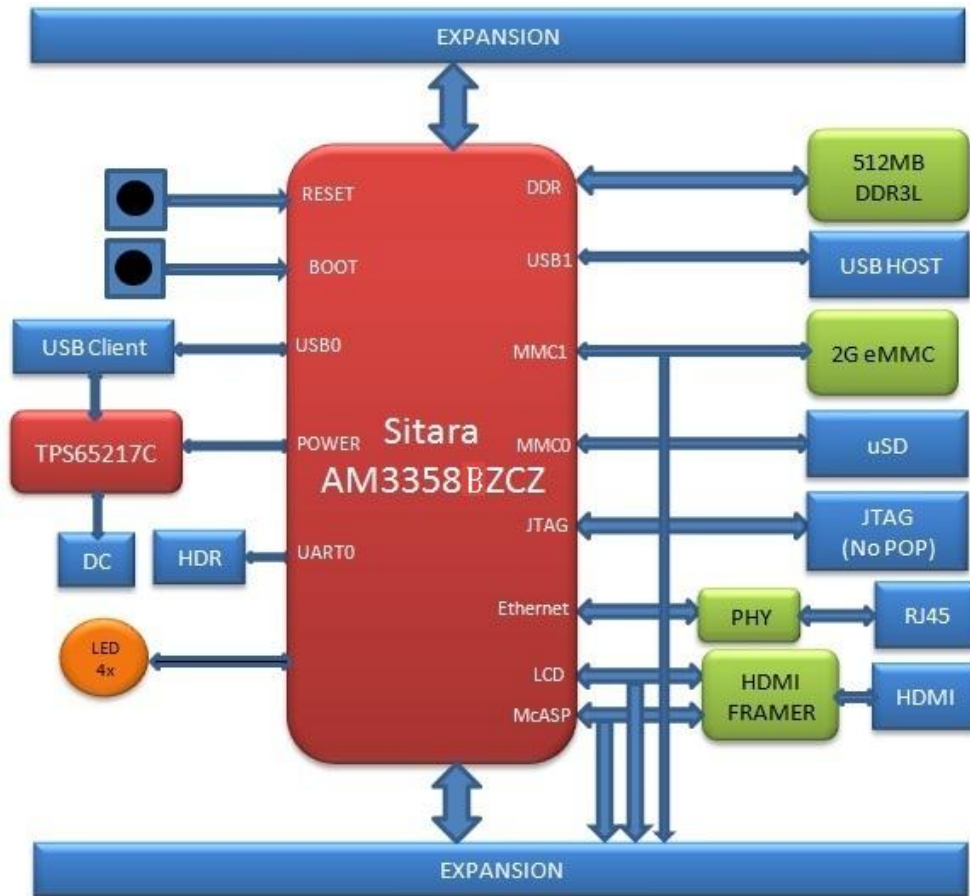

Figure 19. BeagleBone Black Key Components
Figure 19 below is the high level block diagram of the BeagleBone Black.
**Figure 20** below is the high level block diagram of the board. For those who may be concerned, **Figure 20** is the same figure as **Figure 19** back on page 31. It is placed here again for convenience so it is closer to the topics to follow.